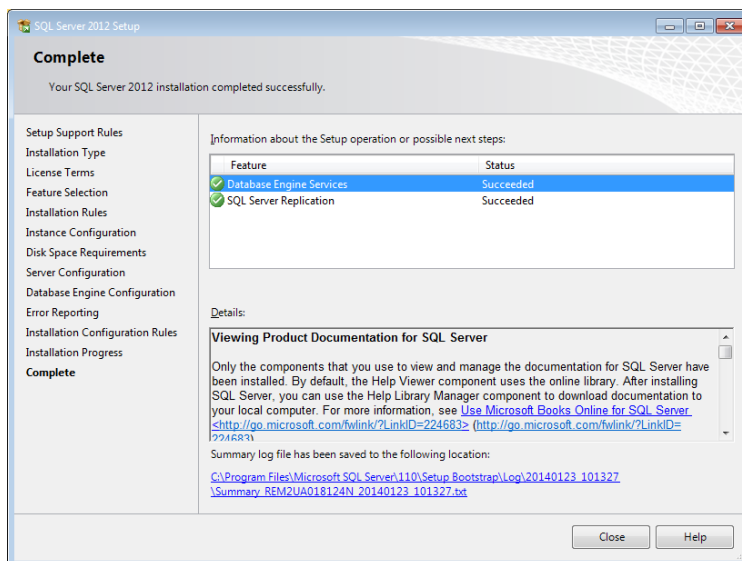

Figure 8. SQL Server 2013 Installation Complete
14. When the installation is complete you will see the image depicted in Figure 8. The new instance is now ready to use for hosting AutoCAD Plant 3D or AutoCAD P&ID projects.